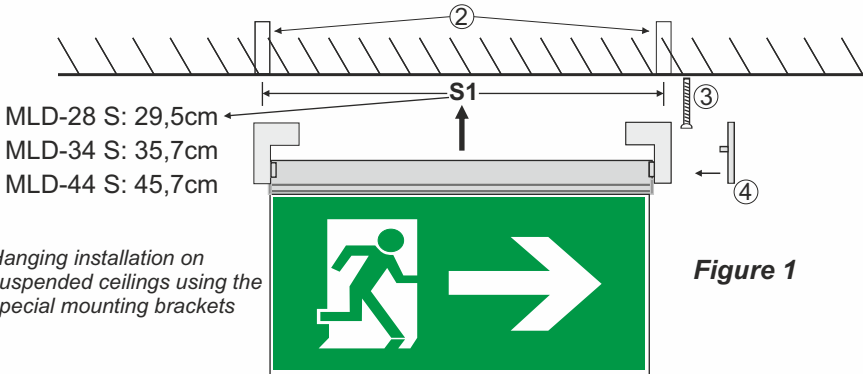

Figure 1
5. Follow the procedure below (figure 1).
- Perform the procedure for ceiling mounting figure 1.
- ① Remove the plastic cover from each side. (figure 1, step 4).
- ② Unfasten the mounting screws to unmount the illumination sign (figure 1, step 2).
- ③ You have to disconnect the power supply wires of the sign from the terminal block.
- ④ Unfasten the mounting screw of the bracket and remove it.
- ⑤ Unfasten the mounting screw (with the cable holding accessory) of the bracket and remove the bracket.
- ⑥ Unfasten the 3 screws without moving the marking panel.
- ⑦ Unfasten the 2 screws and remove the marking panel.
- ⑧ Slide out the led strip with a flat blade screwdriver.
- ⑨ Pull carefully the led strip by holding it from the two sides as shown in picture.
- ⑩ Remove the used battery and place a new one with the same type A-939/HT with same cables and connector.
- ⑪ Push carefully the led strip by holding it from the two sides as shown in picture.
- ⑫ Push the led strip to face the edge of the plastic cover.
- ⑬ **ATTENTION !!! Don't apply force to the test button.**
- ⑭ Refit the removed parts in steps 7,6,5 and 4.
- ⑮ **WARNING!! Use a maximum torque of 0,25Nm to tighten the screws (step 6,7) and a maximum torque of 0,6Nm to tighten the screws (step 4,5).**
- ⑯ Mount the illumination sign with the mounting screws (figure 1, step 4).
- ⑰ Connect the power supply wires of the sign to the terminal block (step 3). Refit the plastic cover (figure 1, step 5) and power the illumination sign.